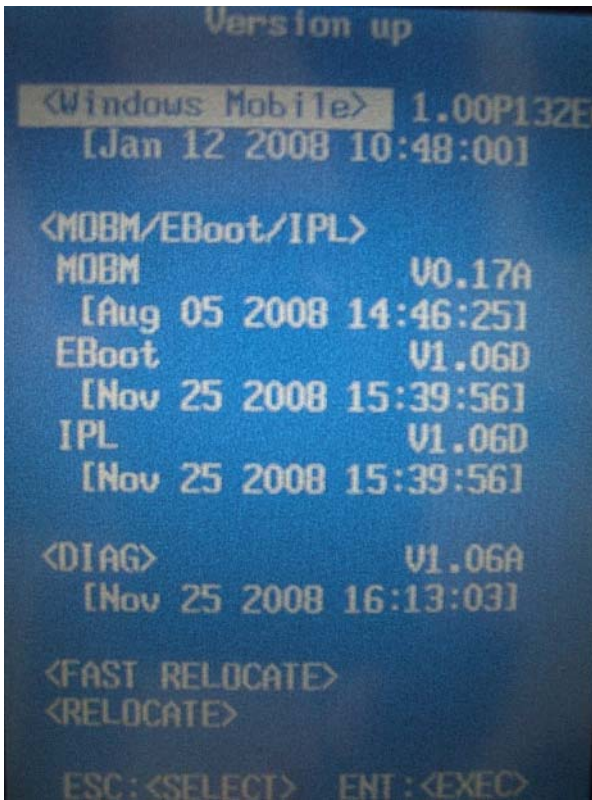

Figure 8-2. Version Up Screen
After **DIAG start** flashes on the screen, the **Version up** screen displays (Figure 8-2).
3. Select the **RELOCATE** option in the **Version up** screen (Figure 8-2).